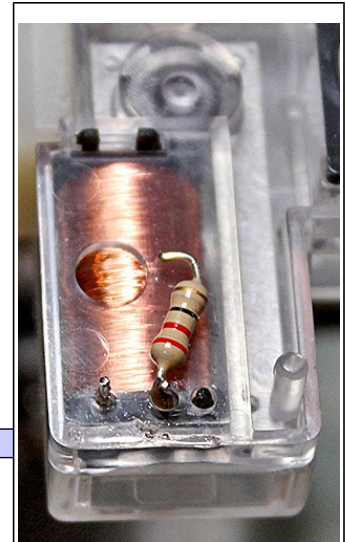

Fig. 34: Resistor soldered.
- ☐ Cut each lead $\frac{1}{4}$ " beyond the bend. Orient the movement with the motor terminals closest to you, as shown in Fig. 34. Lay the resistor on the clear housing so the near lead bends toward the right. Use needle nose pliers to loop this lead around the right-hand motor terminal. Solder the resistor to the terminal. The other resistor lead should point toward the hole in the housing.